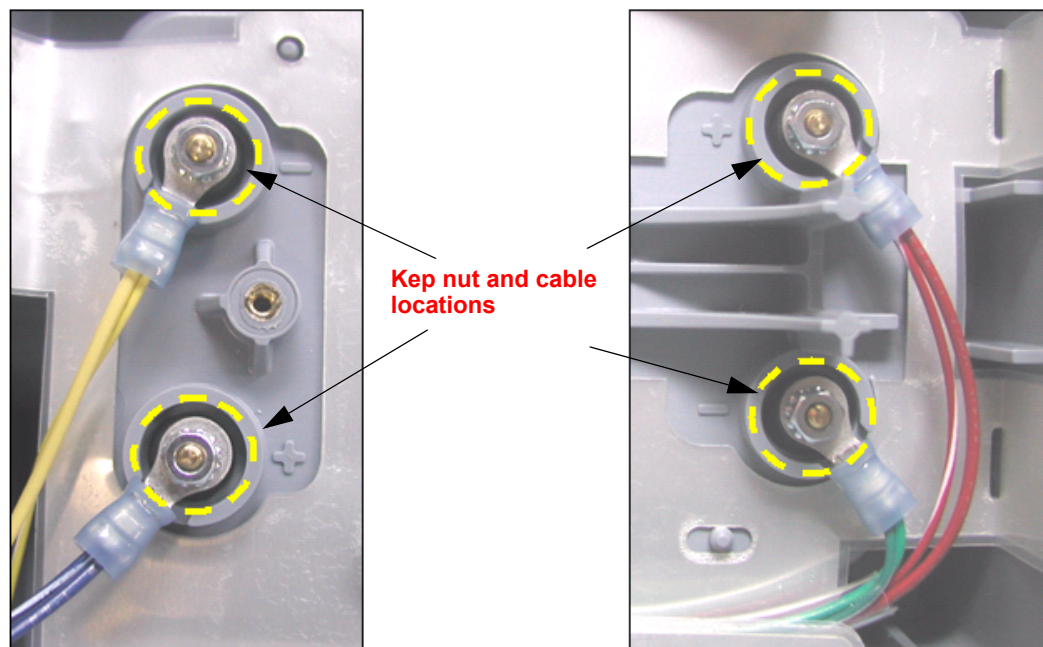

Figure 10.110—Power PCB cable Kep nut and cable locations
Refer to Figure 10.110 on p. 454 and Figure 10.99 on p. 425.
2. Connect terminals P43 and P44 at Battery Well 1, and P45 and P46 at Battery Well 2 and replace the four Kep nuts (201508-000) (torque to 4.0 in-lb using 1/4" socket and drive adapter). See Figure 10.110 on p. 454.